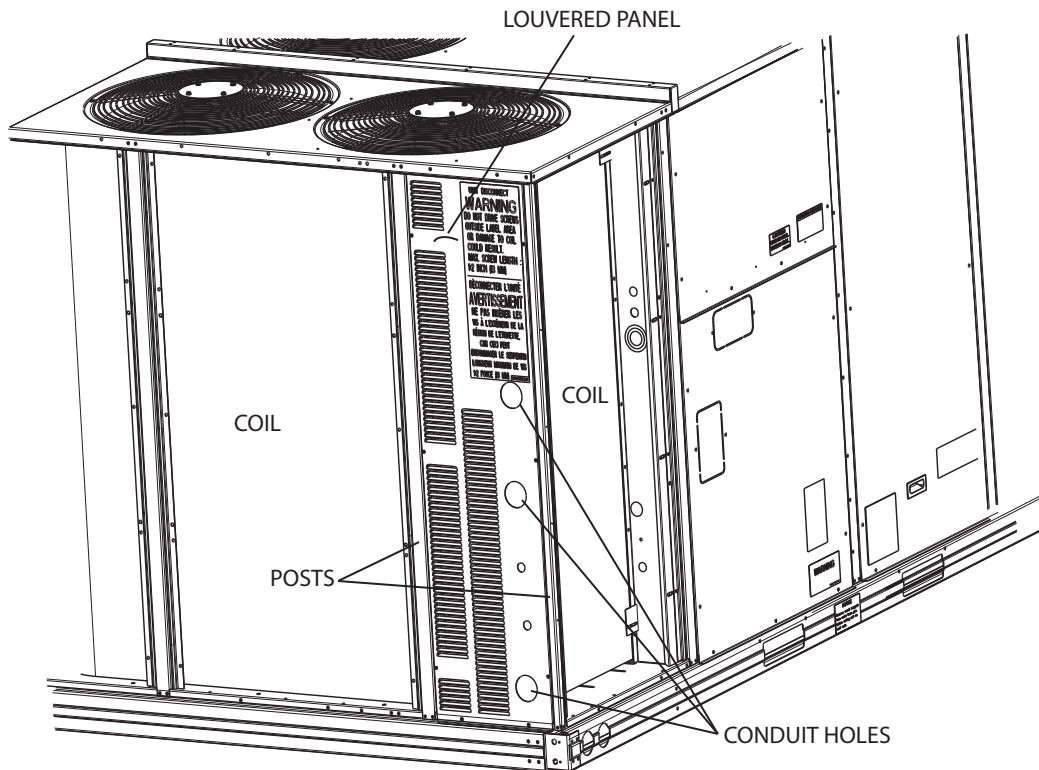

Fig. 1 - Bracket Mounting Location
3. Locate the bracket in the corner of the unit as shown in Fig. 1 and 2.